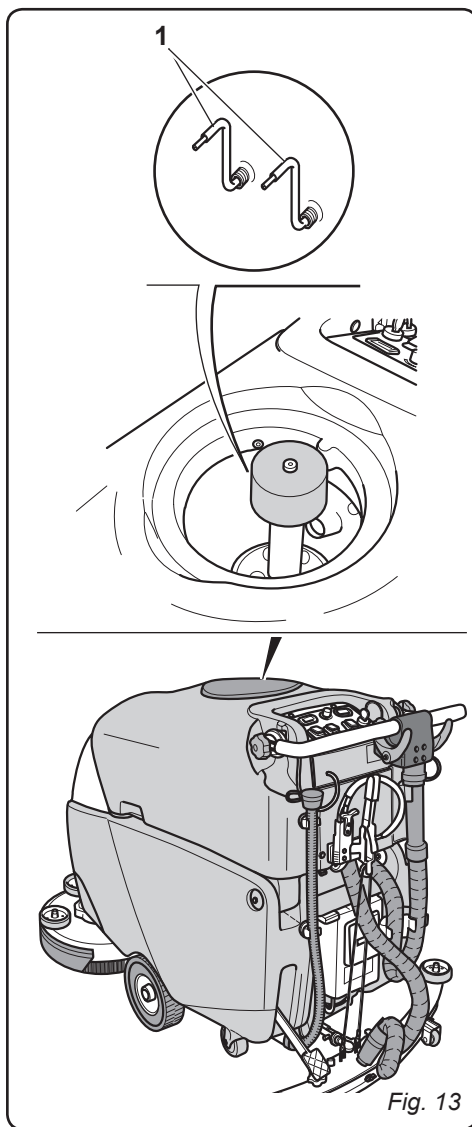

Fig. 13
8.1.e - Maximum recovery tank water level alarm (Fig. 13)
8.1.f - Probe height (Fig. 13)